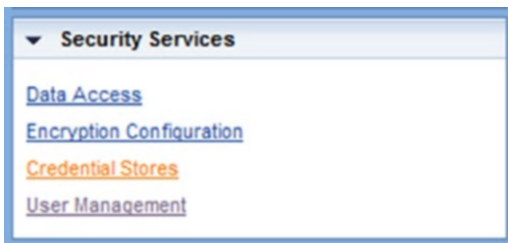

Figure 1-8. Menu option for User Management
2. From the MII Menu, go to the Security Services ► User Management. See Figure 1-8.